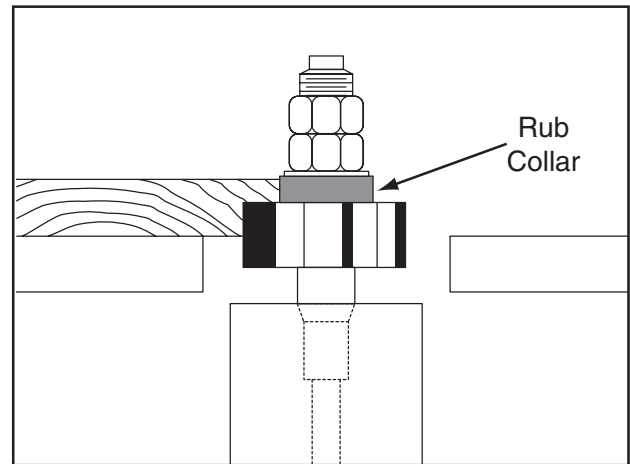

Figure 35. Rub collar installed above the cutter.
- **Rub collar above the cutter:** When the rub collar is used above the cutter, the cut cannot be seen, as illustrated in **Figure 35**. This offers the advantage that the cut is not affected by slight variations in thickness, and accidental lifting will not damage the workpiece. Simply correct any variation in height by repeating the cut.